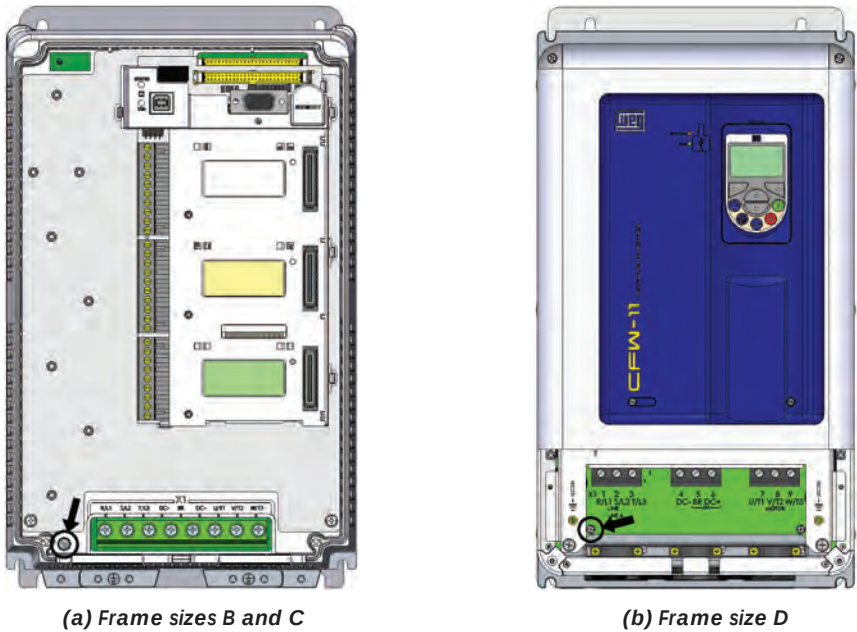

Figure 3.26 - (a) and (b) - Ground connections - location and procedure for adapting to IT or corner-ground networks - frame sizes B, C and D
- ☑ Frame sizes B, C and D: remove the screw as indicated in Figure 3.26 on page 3-36.